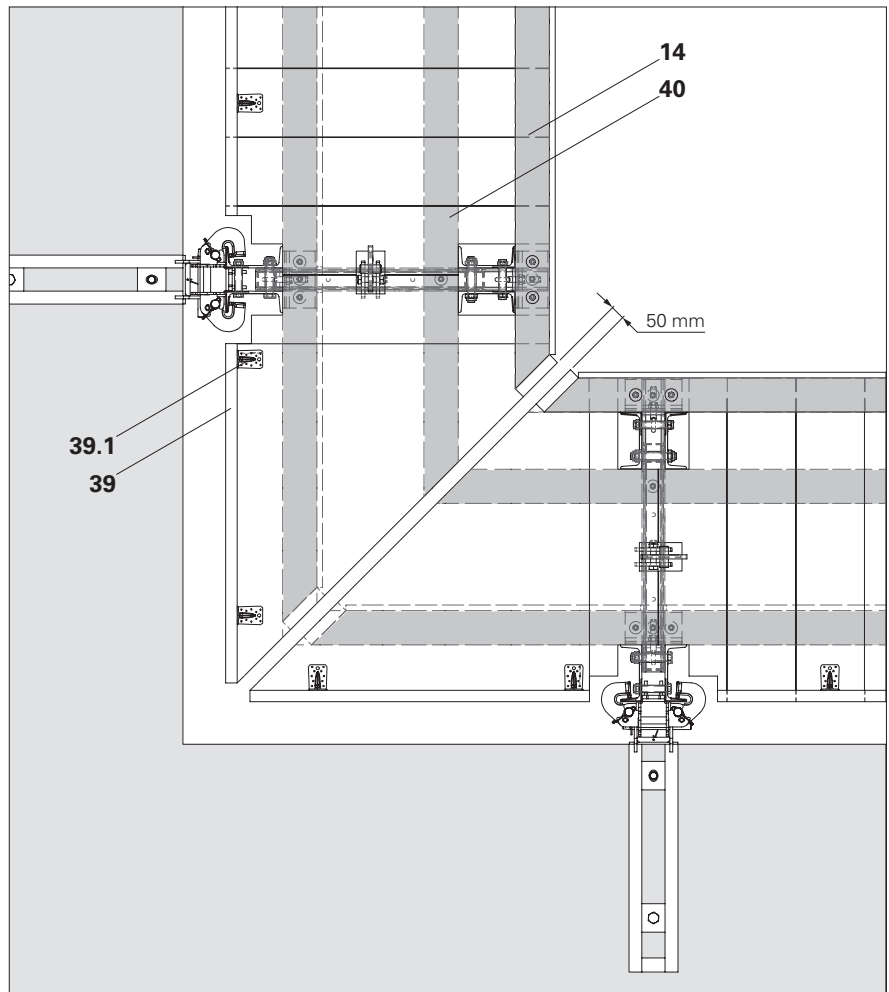

Fig. B3.09
The work platform is mitred accordingly. Push the enclosure beam (14) and platform beam (40) up to the mitre. Assemble platform decking using multi-layer plywood sheeting in the mitred area. Cover the mitre gap. (Fig. B3.09)